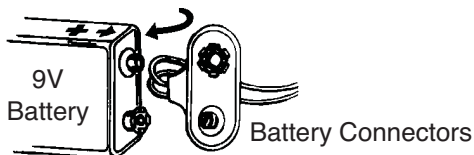

Figure 1: Connecting the Battery
2. Connect battery: Connect battery snaps firmly (see figure 1). Press the test button and horn should sound.